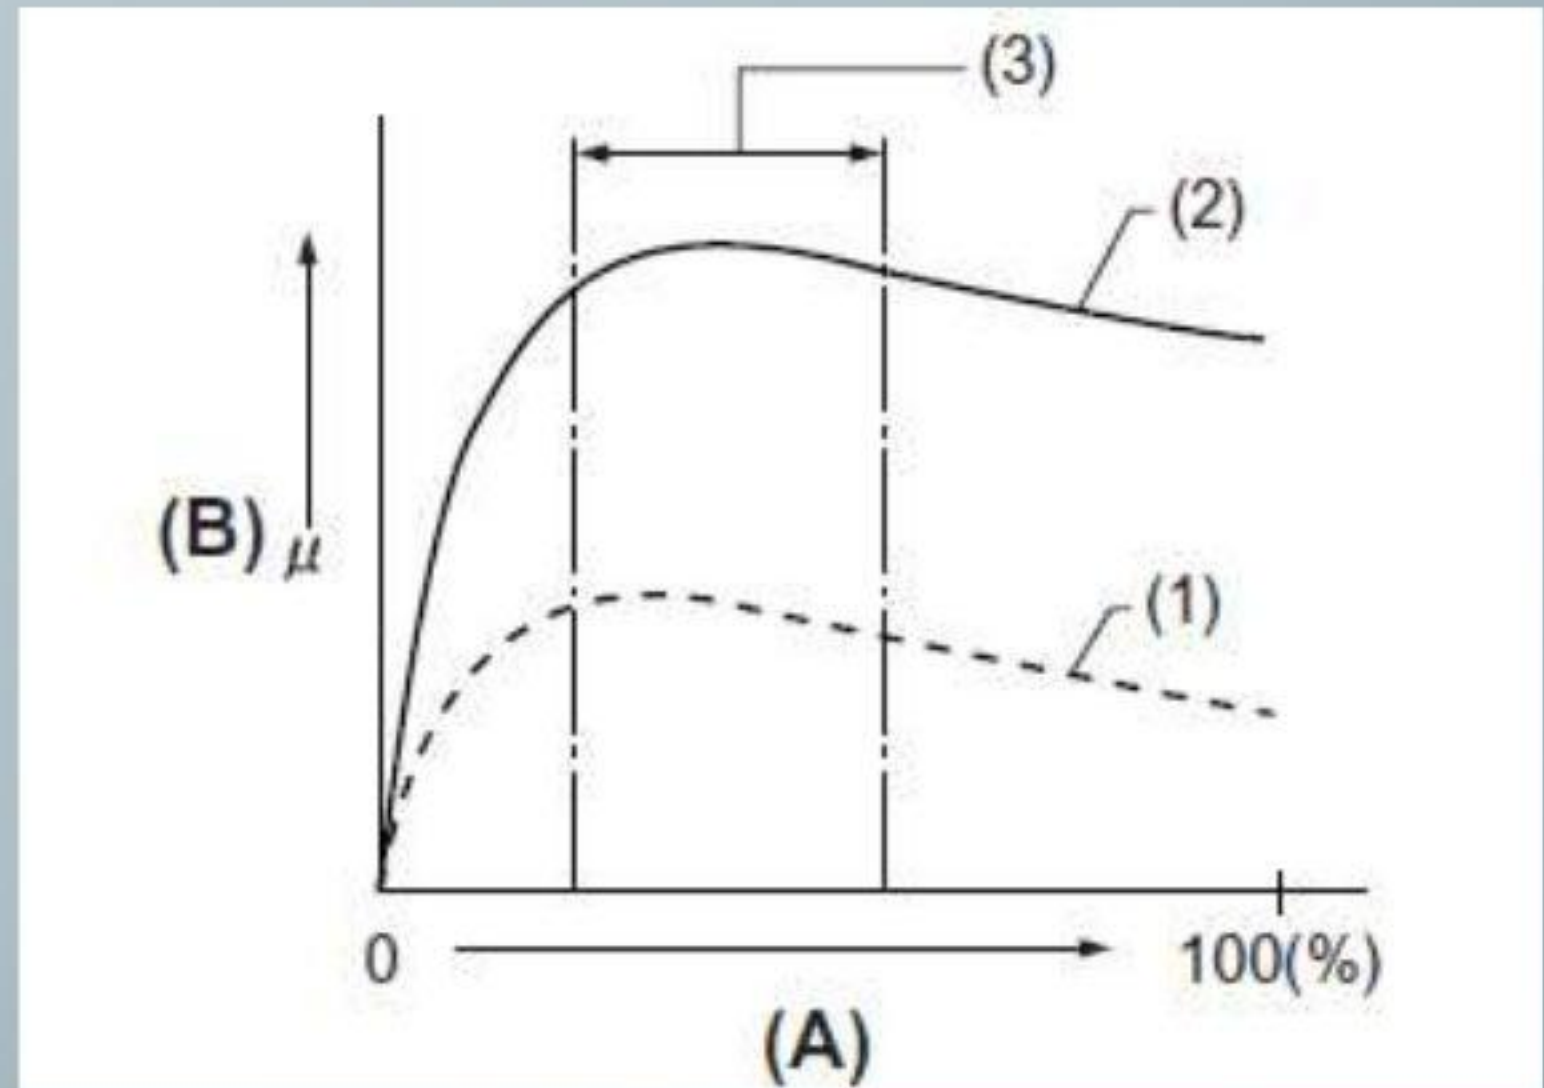

**Figure 2. Illustration of the relationship between braking coefficient and wheel slip**
See Fig 2.
- Figure 2 shows the relationship between braking co-efficient and wheel slip. It is shown that the slide values for stopping/traction force are proportionately higher than the slide values for cornering/steering force. A locked-up wheel provides low road handling force and minimal steering force.